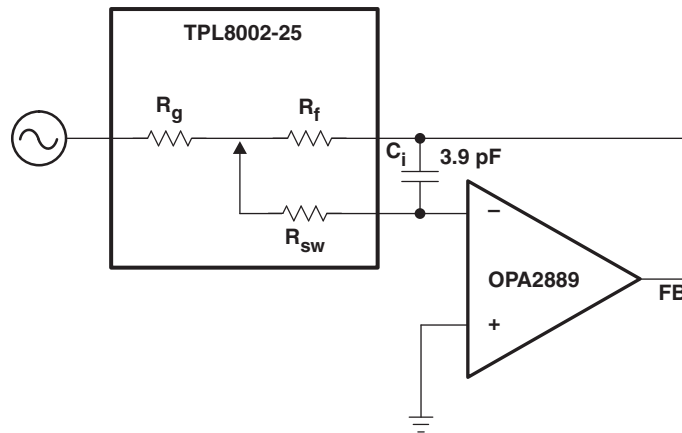

Figure 2. Bandwidth Setup
- (1) Typical bandwidth shown in Figure 2 supports 6 MHz minimum.